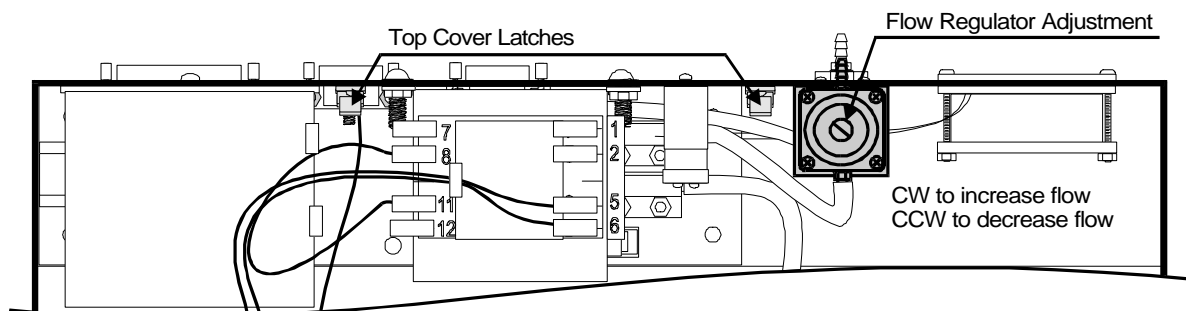

Figure 24 Cover Latches and Flow Regulator Adjustment Locations
- 9 Reach through the opening at the top of the instrument and release the two catches at the top rear, inside the instrument. See **Figure 24** for latch locations. This releases the plastic cover from the metal base. Lift the housing up and towards you, and remove it from the chassis. Store the cover in a safe place.